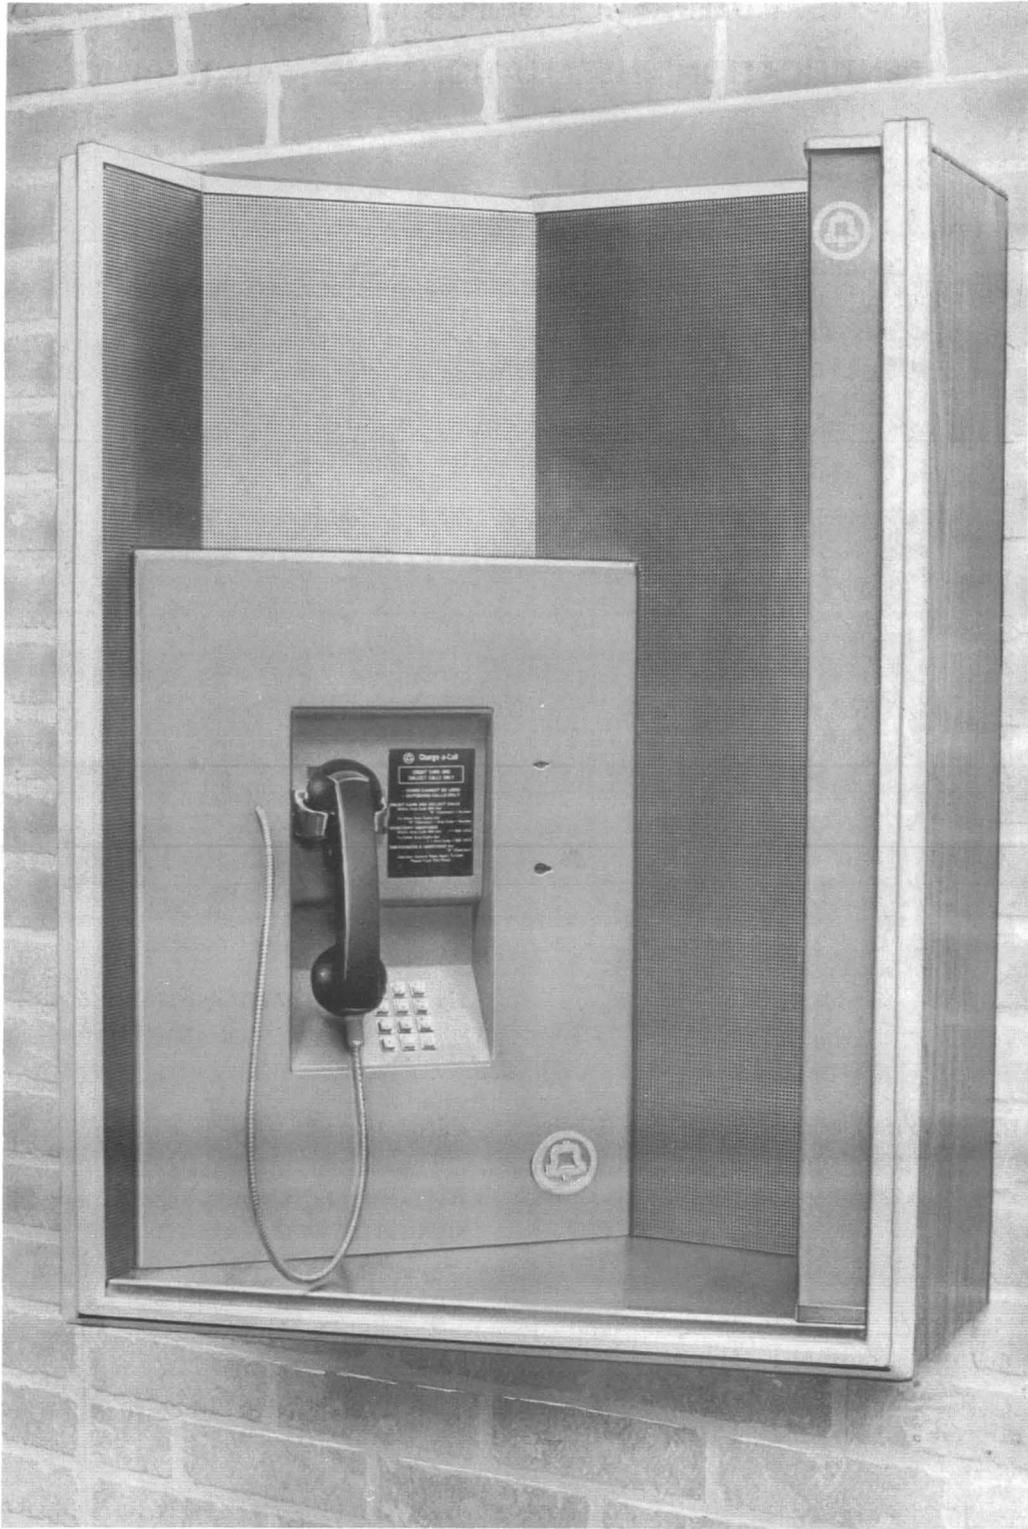

Fig. 3—KS-21571, List 7A Public Telephone Shelf With 20-Type Set and Fluorescent Lamp
- (a) Show KS-21571, Lists 2, 3, 4, 6, and 8 manufacture discontinued (MD)
- (c) Change Fig. 3 and 5